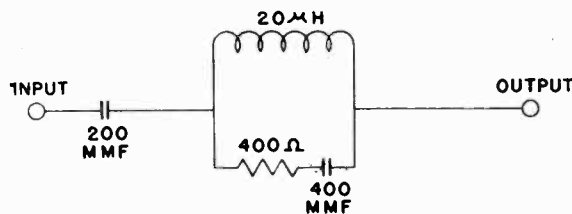

Fig. 1. Standard I.R.E. Dummy Antenna
** Use an I.R.E. "dummy" antenna as shown in Fig. 1 between the signal generator and the point of input.